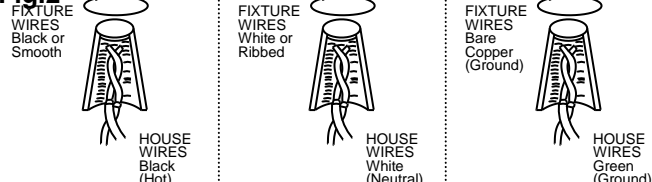

Fig.3
Replacing LED module (Fig.3)
The LED module can be replaced by a qualified electrician without cutting the wires and without damaging the decorative element to which the fixture is attached. See installation steps for more details (Fig.3)
- a. Loosen finial (U) and remove the plastic washer (T).
- b. Loosen screws (S) and remove the glass shield (R).
- c. To remove the fixture from the ceiling: loosen the cap nuts (M) and remove the wire connectors. Then place the fixture on a clear flat surface (Fig.3).
- d. Remove the cup (Q), then loosen screws (X) and carefully remove the LED module (W) from the ceiling pan (I).